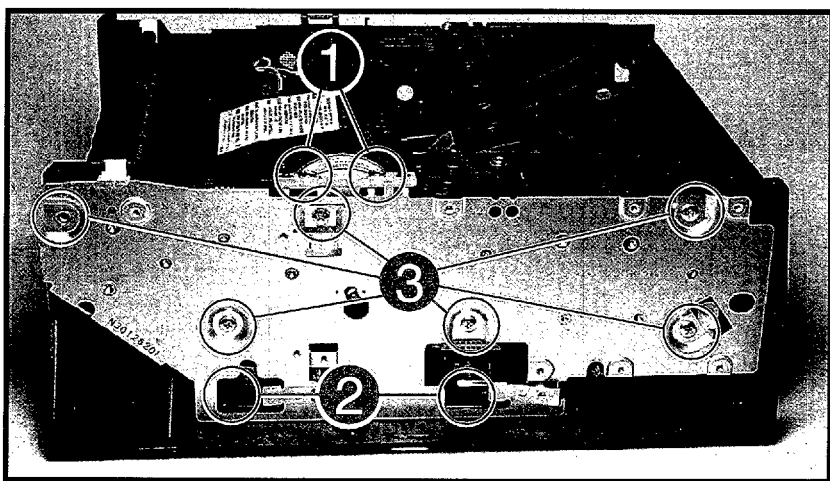

Figure 6-15 Removing the Gear Train Assembly (LaserJet 4L shown)
2. Loosen (do not remove) the (2) upper self-tapping Main Motor screws (Figure 6-15, callout 1).
3. Through the access holes (Figure 6-15, callout 2), remove the (2) screws securing the Gear Train grounding springs (small diameter machine screws with captive star washers). These screws are connected to the DC Controller Assembly.
4. Remove the (6) self-tapping screws (Figure 6-15, callout 3).